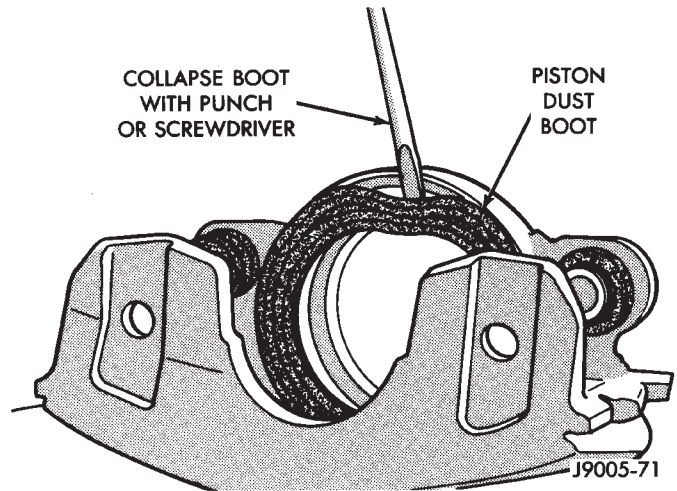

Fig. 17 Removing Caliper Piston Dust Boot
(4) Remove caliper piston dust boot (Fig. 17). Collapse boot with suitable tool and remove and discard boot.